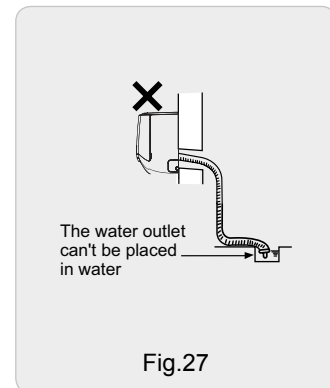

Fig.27
- The water outlet cant be placed in water in order to drain smoothly.(As show in Fig.27)